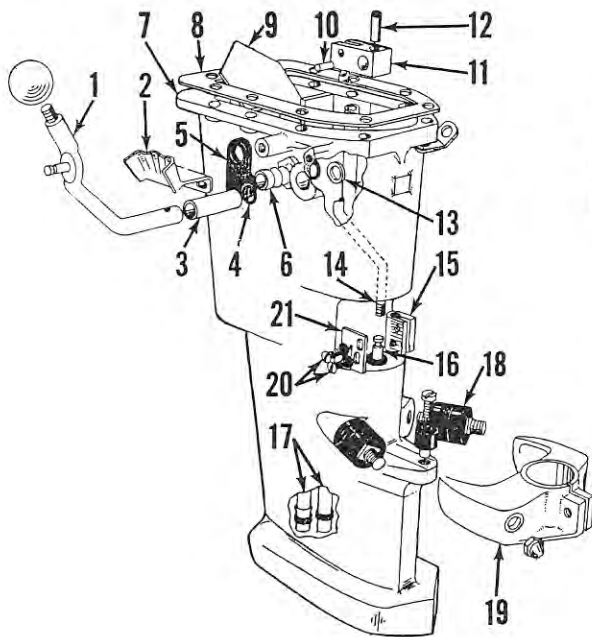

Fig. Mc70 — Exploded view of lower motor housing and associated parts used on Fleet Scott models.
exhaust housing, first disconnect the shift rod coupling (15—Fig. Mc70) then remove the capscrews retaining the pump housing to the exhaust housing (7). Remove the pump housing and gearcase housing as a unit. Disassemble the cooling system and bailer pumps as outlined in WATER PUMP paragraph, then remove pump housing from gearcase housing (11—Fig. Mc69). Drain the gearcase housing and remove the propeller shaft assembly as previously outlined. Remove the split driveshaft retainers (19) then pull the driveshaft, seal and inner bearing races out of gearcase. Remove the other gearcase components. Forward gear (20) and upper side of clutch dog (21) are marked with the letter "T" as an aid to proper assembly. Reverse gear
(12) from clevis (10) and turn the clevis up or down on upper shift rod (9) as required.
To adjust the gear shift linkage on Fleet Scott models, drain the gearcase housing and remove the propeller, shear pin and cushion hub, then remove the propeller shaft and housing assembly. Move the shift lever (1—Fig. Mc70) to the neutral detent position and check to make sure that clutch dog (21—Fig. Mc69) is midway between the gears (20 and 22). If it is not, loosen the coupling screws (20—Fig. Mc70) and thread the coupling (15) up or down on upper shift rod (14). Move the shift lever into "Reverse" and move the actuator (21) up or down until the reverse lock yoke is fully depressed, then tighten screws (20).